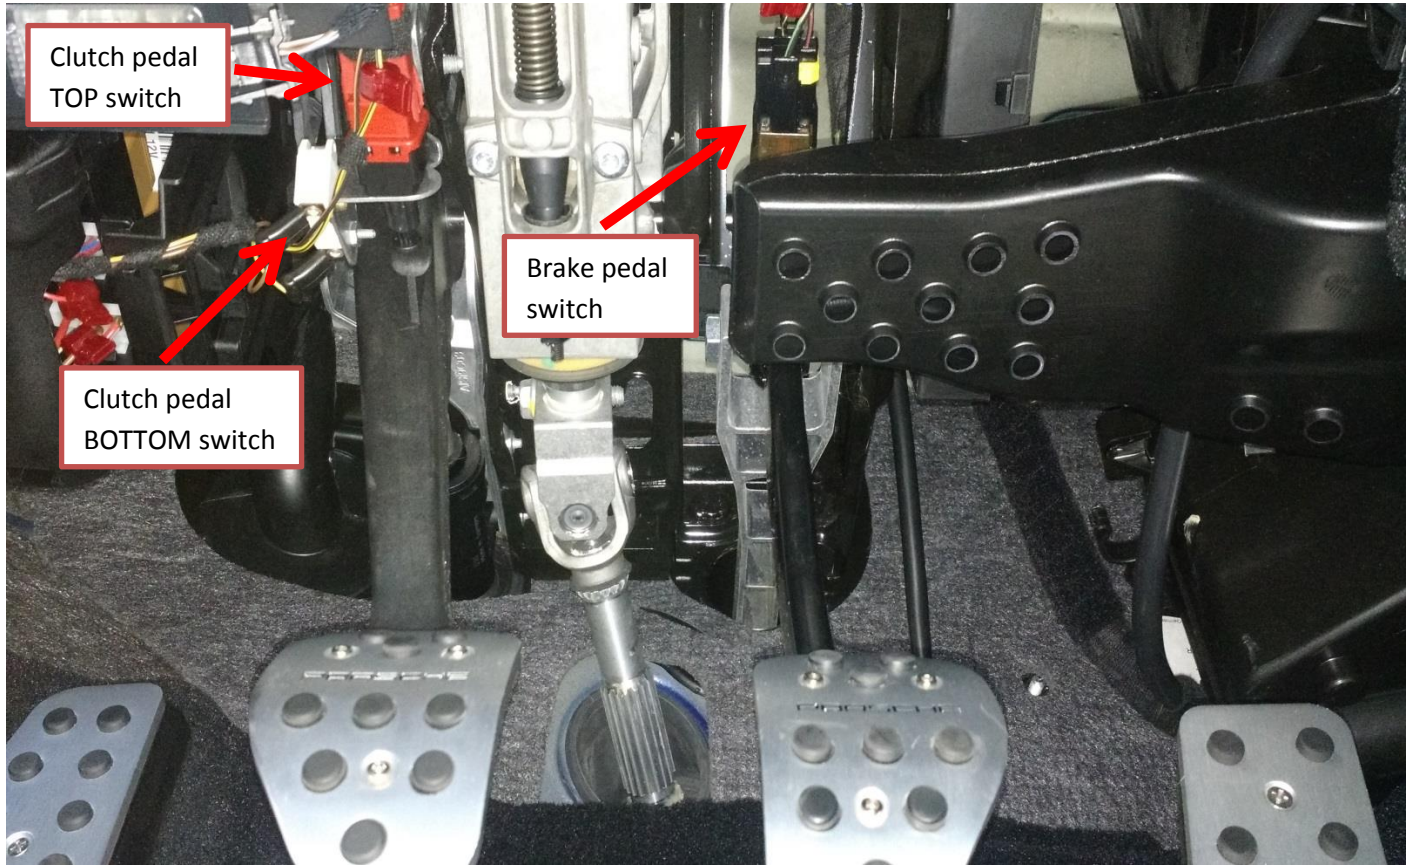

Figure 1a (General overview of the Sensors under the driver's dash)
1. Locate all the specified switches/sensors shown below on **Figure 1a & 1b**.
2. Connect the (6) *AUTO-BLiP* wires from the harness to the corresponding car wires as outlined in the table shown above.